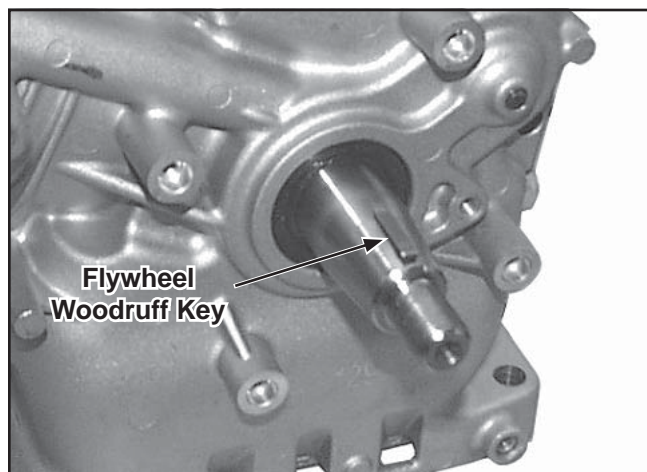

Figure 11-36. Crankshaft Flywheel Key Position.
1. Install the woodruff key into the keyway of the crankshaft. Make sure that the key is properly seated and parallel with taper of shaft. See Figure 11-36.